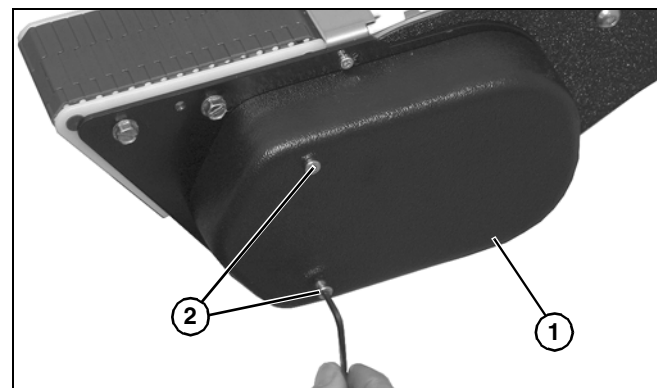

Figure 113
11. Install cover (**Figure 113, item 1**) with two hex head screws (**Figure 113, item 2**).